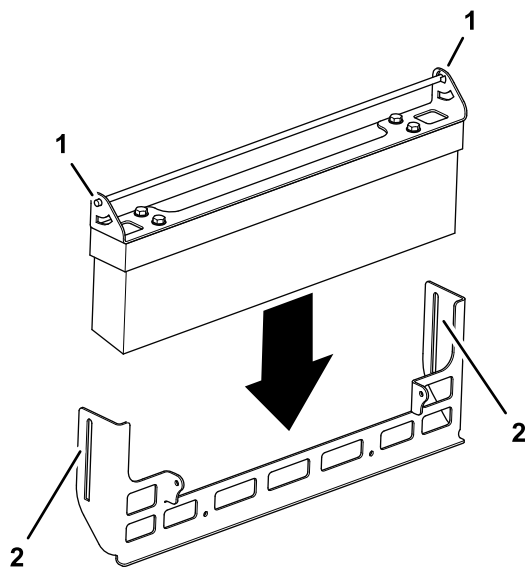

Figure 2
1. Assemble the brush and brush-adjustment bracket to the brush mount as shown in Figure 2.